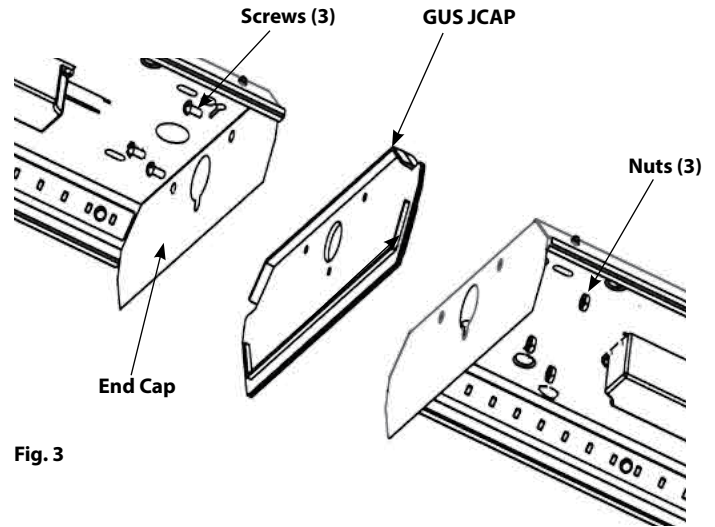

Fig. 3
(ordered separately) - Fig. 3
1. Remove **End Caps** (2) from both **Housings** and replace with **GUS JCAP**.
2. Secure **GUS JCAP** with **Screws (3)** and **Nuts (3)** provided as shown in Fig. 3 to join both Housings.